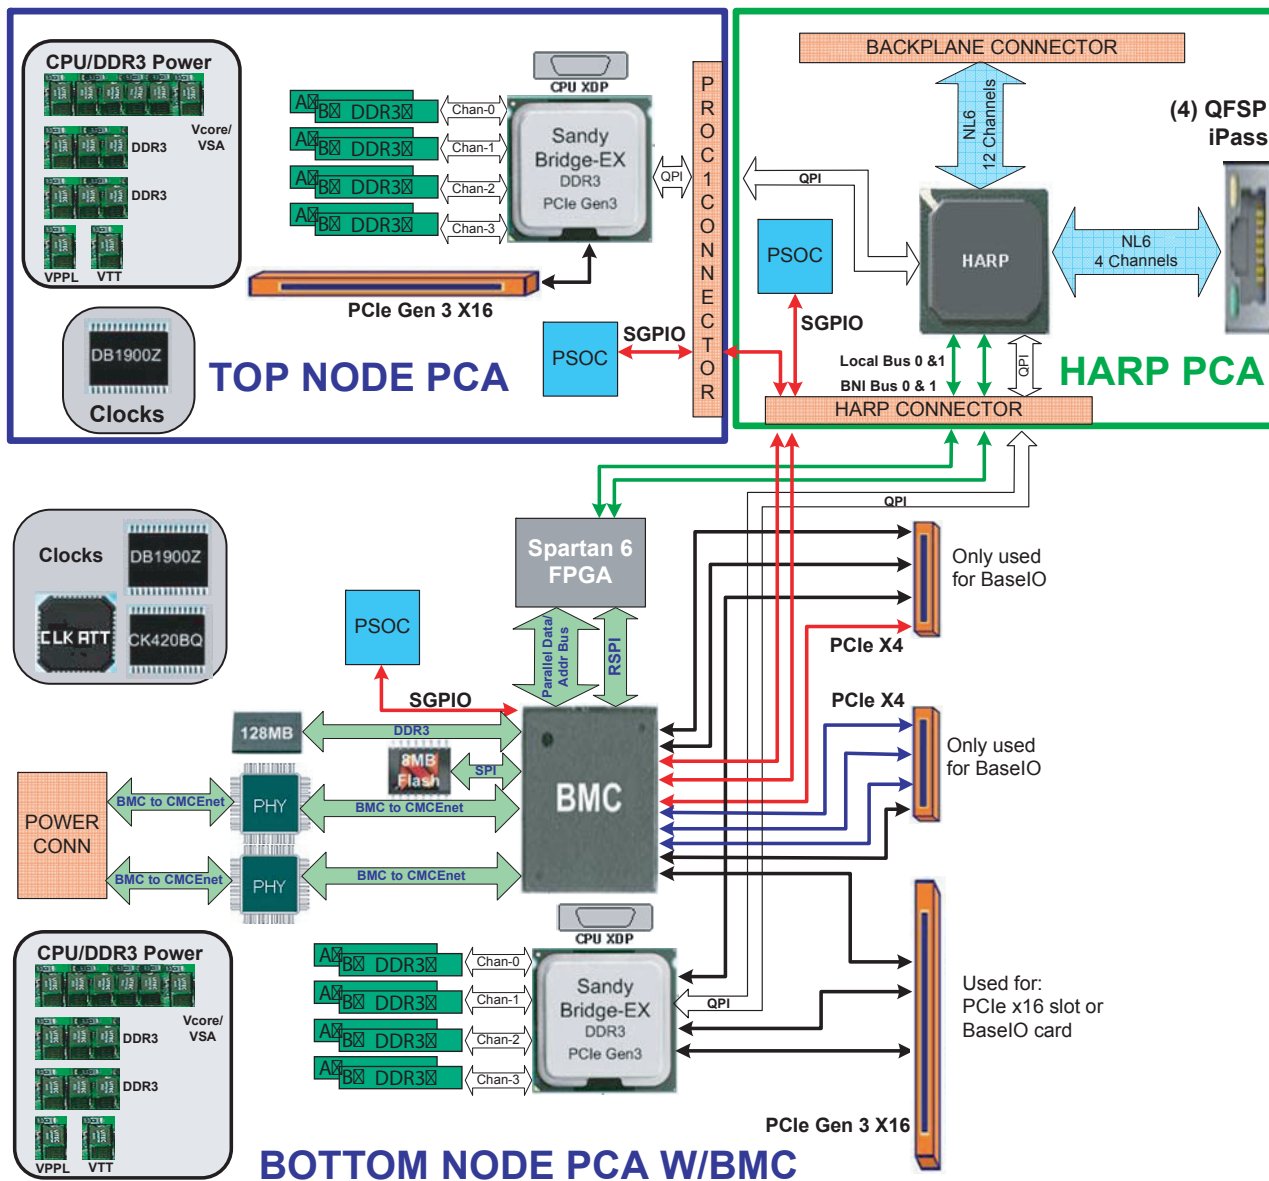

Figure 3-4 Blade Node Block Diagram Example
- If a processor accesses memory that is directly connected to its resident socket, the memory is referred to as *local memory*. Figure 3-4 on page 44 shows a conceptual block diagram of the blade’s memory, compute and I/O pathways.